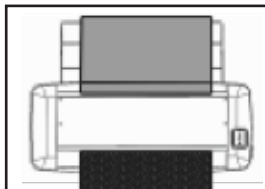

Fig. 4
3. Thread Z-Fold paper and pull it to the small protrusion area, against the internal roller, ensuring that when the start button is pressed, the machine can pull out the folded paper and smoothly begin the process of creating paper bubbles. (Fig. 4)